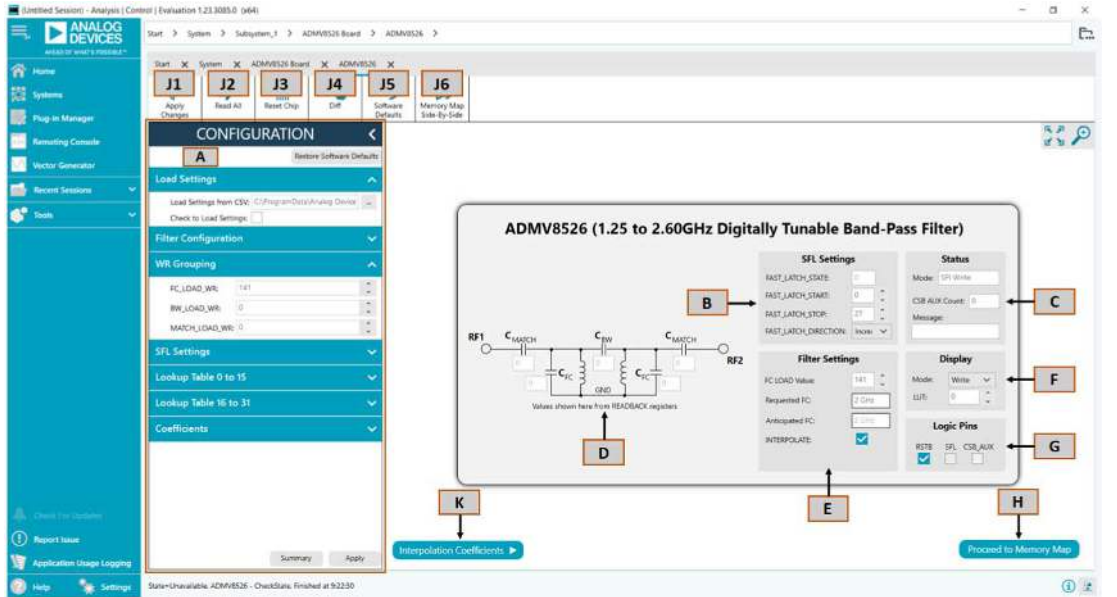

Figure 7. ADMV8526 Chip Plug-In with Labels
The full screen ADMV8526 chip plug-in with labels is shown in Figure 7. The labels correspond to items listed in Table 1, which
Table 1. ADMV8526 Chip Plug-In Label Functions (See Figure 7)
| E | <p>The Filter Settings section shows several controls for configuring the filter. Depending upon if INTERPOLATE is enabled, various controls can be visible. When INTERPOLATE is enabled (as shown Figure 7), the following controls are visible:</p> <p>FC_LOAD Value: this numeric up and down box (0 to 255) is used to set the desired center frequency value. Note that this is a unitless quantity, where a 0 corresponds to the lowest center frequency, and 255 corresponds to the highest center frequency.</p> <p>Requested FC: enter in a requested center frequency in this text box. The value entered is used to compute the closest FC_LOAD Value for that frequency of operation.</p> <p>Anticipated FC: this text box is an estimation of the operating center frequency based upon the FC_LOAD Value.</p> <p>INTERPOLATE: this check box enables the interpolation functionality on the chip.</p> <p>When INTERPOLATE is disabled (not shown in Figure 7), the following controls are visible:</p> <p>FC_LOAD Value: this numeric up and down box (0 to 255) is used to set the desired center frequency capacitor code.</p> <p>BW_LOAD Value: this numeric up and down box (0 to 255) is used to set the desired bandwidth capacitor code.</p> <p>MATCH_LOAD Value: this numeric up and down box (0 to 255) is used to set the desired input and output match capacitor code.</p> <p>INTERPOLATE: this check box enables the interpolation functionality on the chip.</p> <p>READBACK Values to Filter Settings: this button is available when interpolation is disabled. Click this button to populate the read back values from the hardware into the FC_LOAD, BW_LOAD, and MATCH_LOAD values.</p> |
If a reset of the ADMV8526 chip is required on the ADMV8526-EVALZ, click **Reset Chip** (see Figure 7, Label J3, and Table 1 for additional information). This automated sequence performs the following actions:
- ▶ The $\overline{\text{RST}}$ pin can also be pulled low from within the ACE software by unchecking the **RSTB** check box in the lower right corner of Figure 7 (see Label G). When using this option, be sure to click the check box again to return the $\overline{\text{RST}}$ pin high.